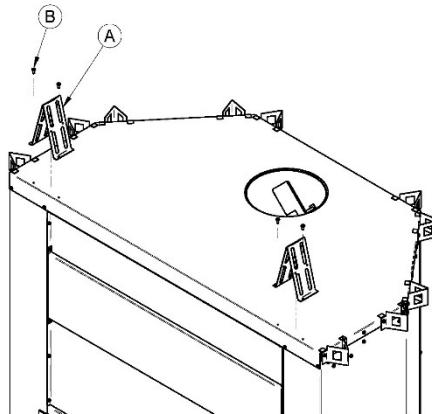

Figure 5
2. Align the holes of the spacers (**A**) with the pre-drilled holes on top of the fireplace and secure them with the 4 screws (**B**) as shown in **Figure 5**: